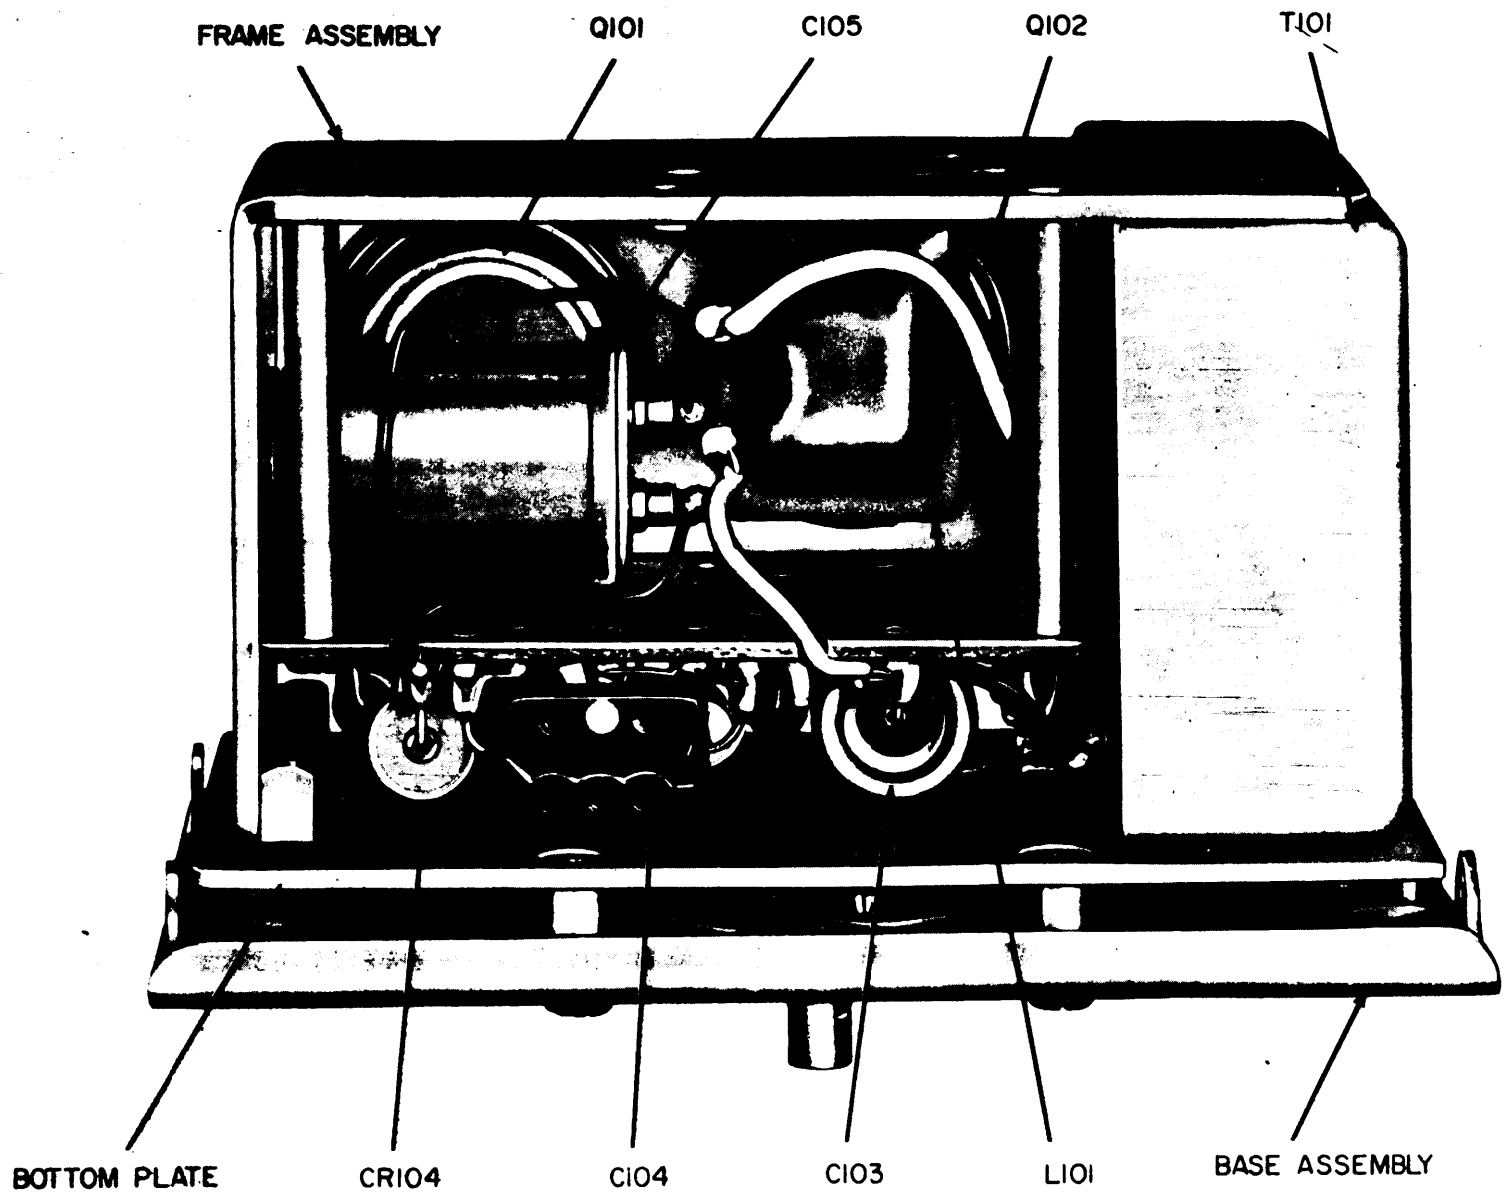

Figure 3. Power supply, parts location.
Between pins 1 and 2 of connector J101 . . . . .	If resistance is zero, check continuity between grand and terminal 2 of choke L101, terminal 1 of choke L101, terminal 3 of transformer T101, and terminals 2 and 4 of transformer T101 (fig. 3 and 4), to determine the wire or part that is shorted to ground.
(fig. 3 and 4)
*c.* Clean the top surface of the frame assembly (fig. 3) with a clean cloth.
*b.* Push coil L101 gently into place (fig. 3) and screw it to the top of the frame assembly after replacement of transistor Q102.
*c.* Push capacitor C105 gently into place (fig. 3) and screw it to the side of the frame assembly during replacement of transistor Q101.